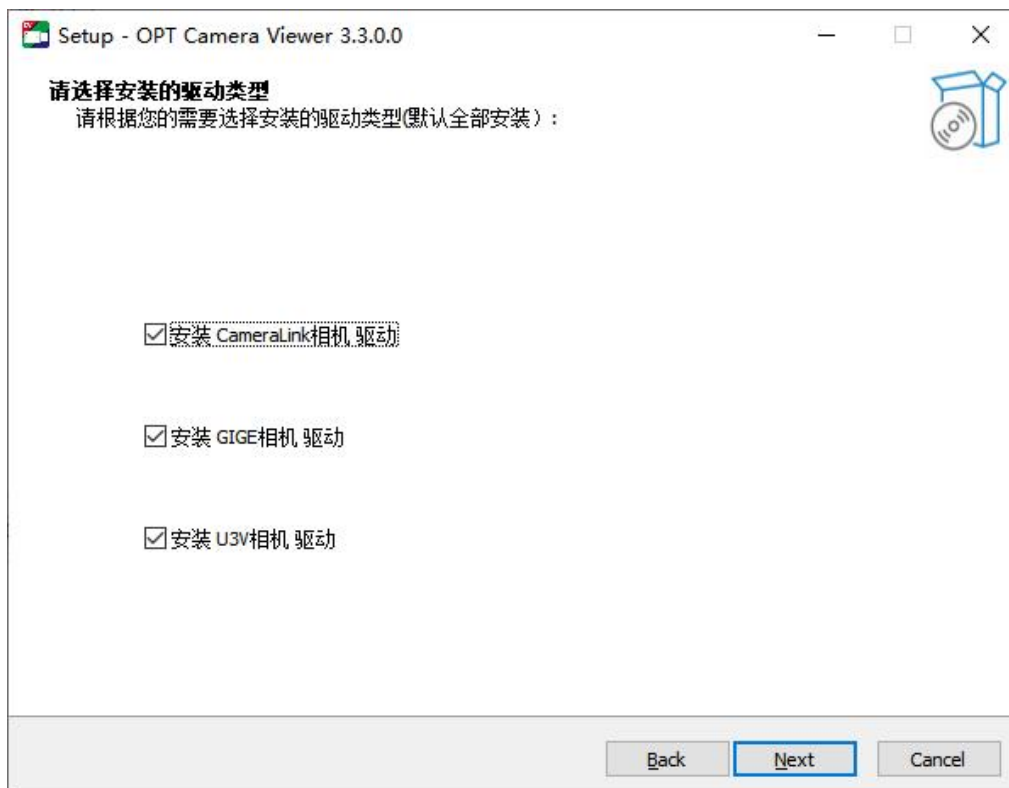

Figure 3-4 Driver Type Installation Options Window
5. Click Next again, as shown in Figure 3-4, and enter the interface of selecting the installed driver type (all installed by default). Here, you can also customize and check the drivers required for installation.